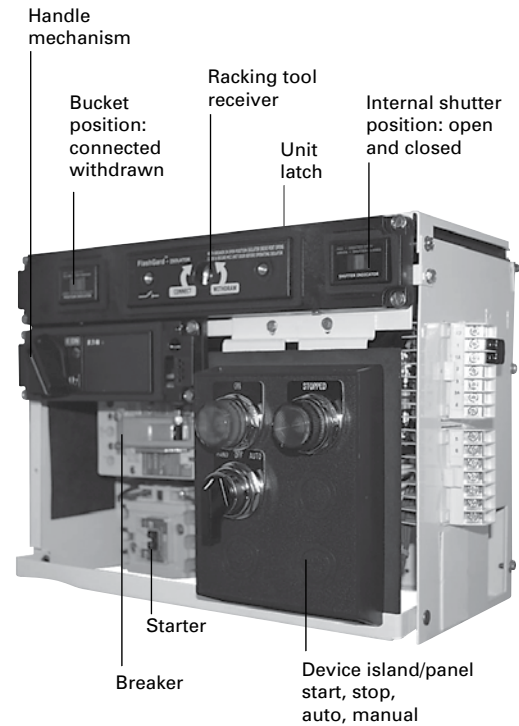

Figure 32. Freedom FlashGard components
1. Prior to installation of the unit, verify that the unit stabs are fully withdrawn and the internal shutters are closed (**Figure 32**). The unit latch at the top of the bucket needs to be flush with the top of the bucket to prevent interference with the divider pan when installing the bucket. The unit operator needs to be in the OFF position and the unit latch should be turned down so the metal tab on the left side of the unit is inside the unit. This will prevent any interference with the structure frame when installing in the structure.